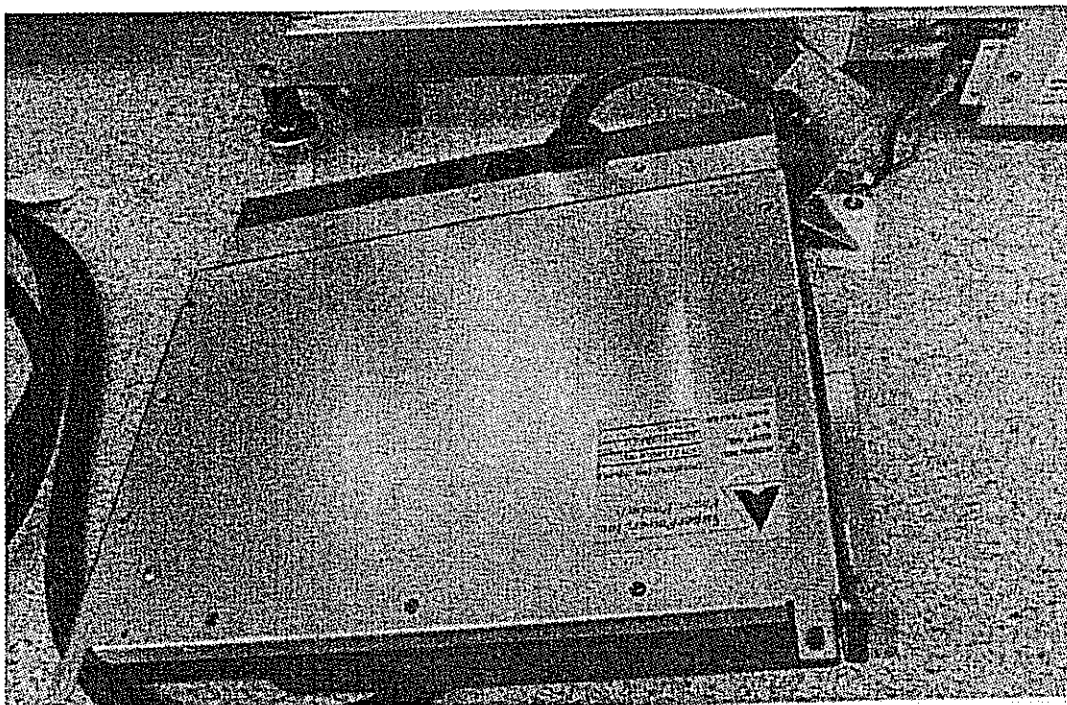

Figure 7-62. Incoming Power Module Back Cover
9. Remove the back cover of the incoming power module by removing the ten Phillips screws from the cover. Refer to Figure 7-62.
10. Remove the back cover of the incoming power module by removing the ten countersunk Phillips screws from the cover. Refer to Figure 7-62.